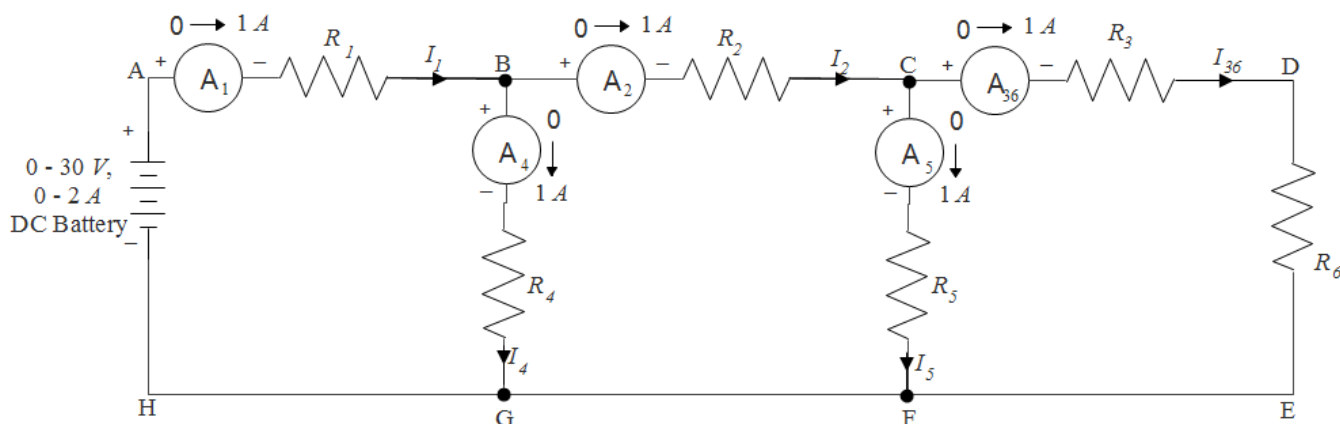

Fig. 1A.2: Circuit Diagram of Kirchhoff's Current Law
1. The circuit is connected as shown in Fig. 1A.2.